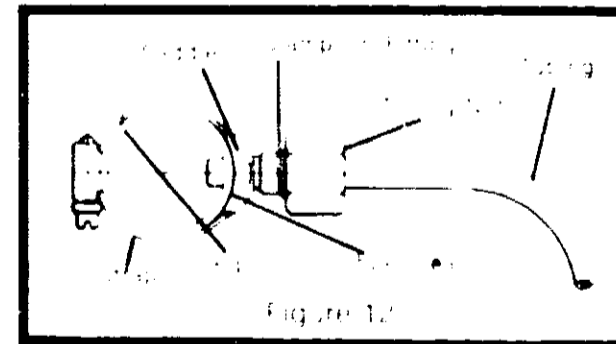

Figure 12
5. Position fitting directly over hole in pipe (Figure 12)